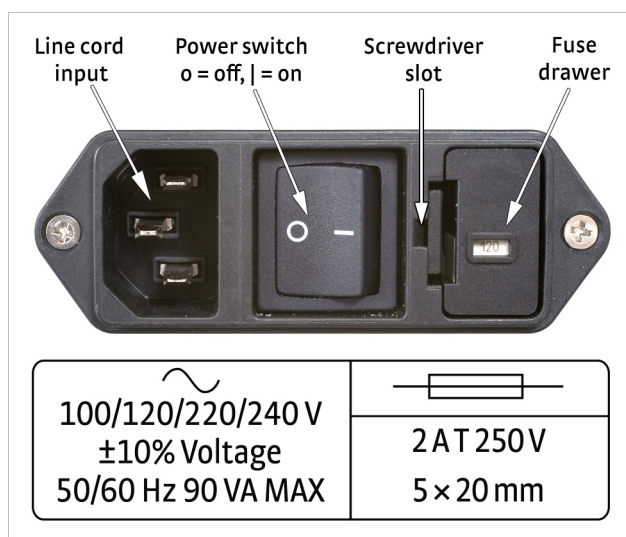

FIGURE 8-2 Power fuse access
1. Identify the line input assembly on the instrument rear panel. See FIGURE 8-2.
2. Turn the line power switch OFF (O).
10. Turn the line power switch On (I) Refer to FIGURE 8-2.
1. Locate the line input assembly on the instrument rear panel. See FIGURE 8-2.
2. Turn the power switch OFF (O).